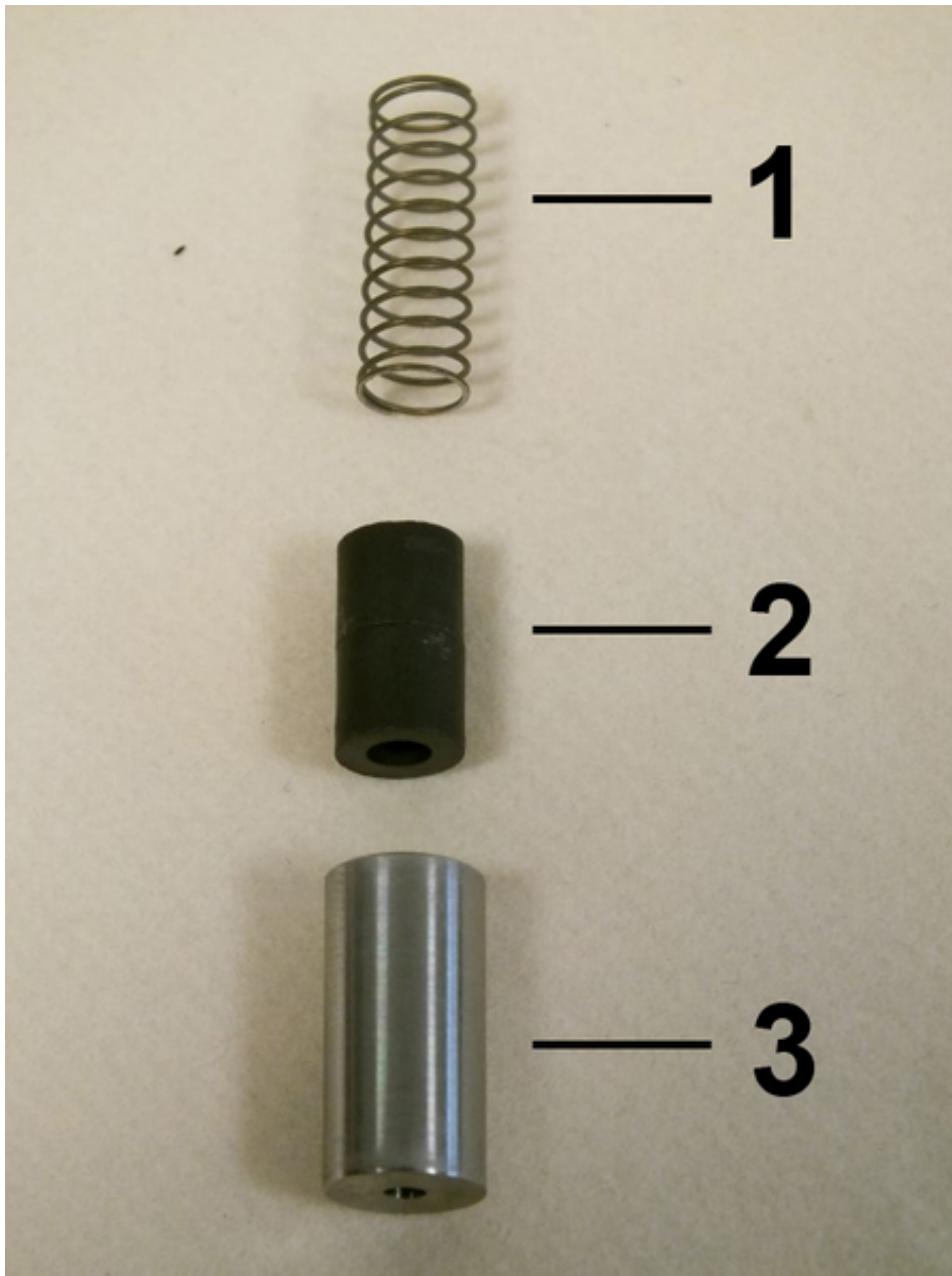

Fig. 39: Spring, magnets and float
- 5.** ➤ The inner parts of the flow monitor consist of the spring (*Fig. 39/1*), magnets (*Fig. 39/2*) and float (*Fig. 39/3*).